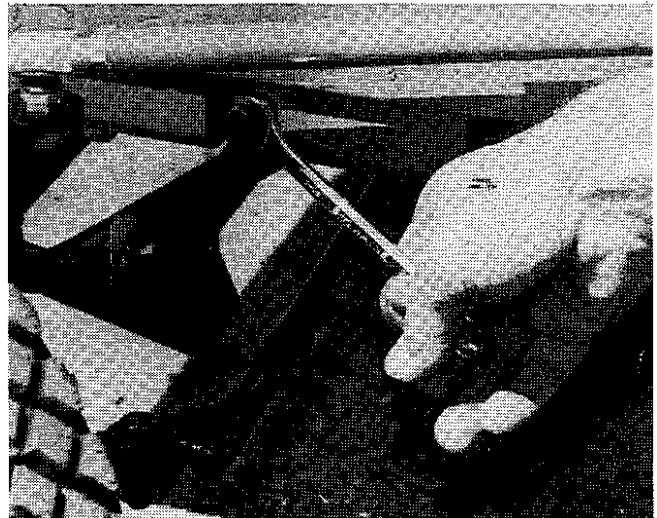

FIGURE 29
2. Change Engine Oil: Drain the crankcase when the engine is warm. Remove the oil drain plug found on the left. See figure 29. After the oil has completely drained replace the plug and tighten securely. Refill the crankcase with four pints of a high quality detergent oil classified MS. It is essential to long engine life that the crankcase oil remain free of contaminants. Use a clean funnel and clean the top of the oil can before opening to insure foreign material does not get in the crankcase when you are adding oil.